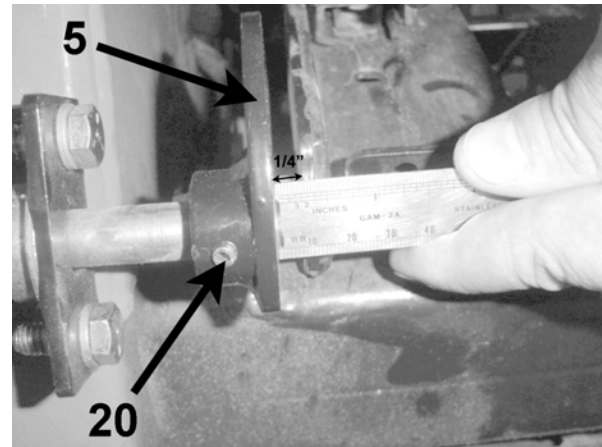

Figure 5
5. Slide the Hand Control Lever Weldment **5** onto the Hand Control Lever and secure with Roll Pin **20**. Slide the lever until there is approximately 1/4" from the lever to the inside of the seat mounting bracket. Slide the set collars up against the bearings on the inside to keep the shaft from sliding back and forth. Tighten set screws. **(Figure 5)**